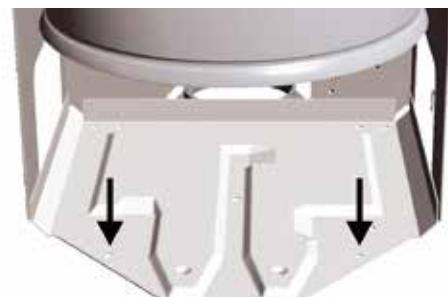

fig. 7
**NOTE!** Do not cover the opening of the ventilation pipe with insect netting. Use suitable screws to attach Cinderella to the foundations, study fig. 7.